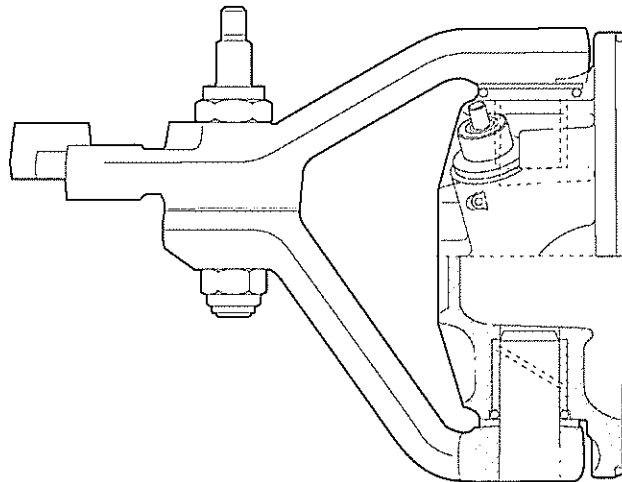

Fig 10 Drag link arm housing assembly
- 21.5 Remove bottom drag link arm, washer, adjusting shims and O-ring. Discard O-ring (see Fig 10).